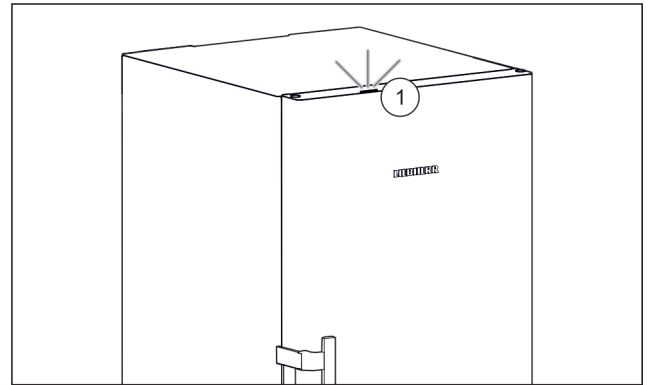

Fig. 4
When you start up the appliance, the status light Fig. 4 (1) is deactivated by default.*